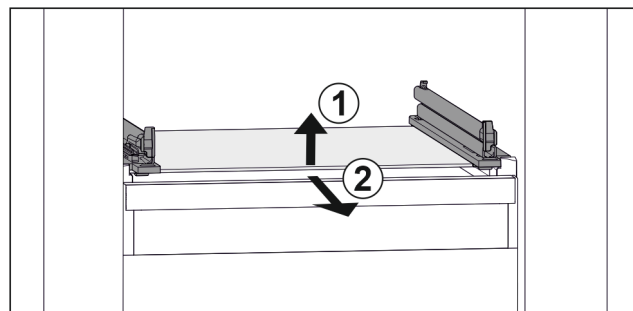

Fig. 27 Example illustration of glass shelf
- ▶ Lift glass shelf at the front. Fig. 27 (1)
- ▶ Remove glass shelf to the front. Fig. 27 (2)